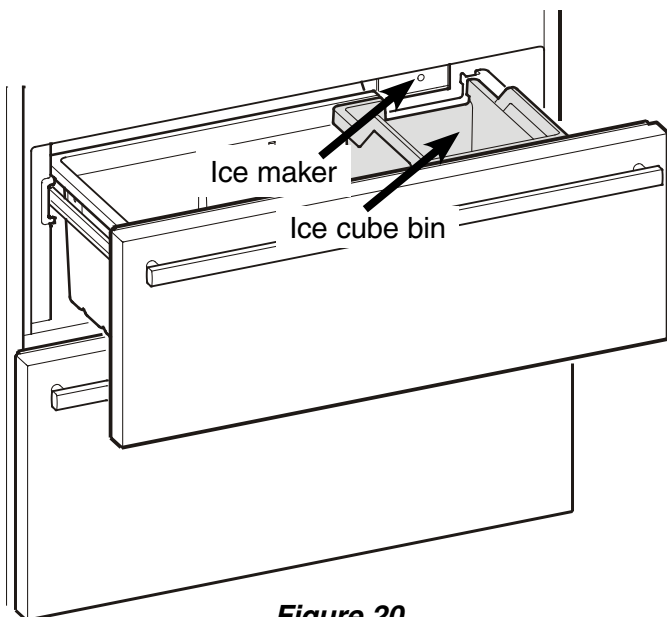

Figure 20
- The ice maker can only make ice cubes if the upper freezer drawer is completely closed and the ice cube bin is installed correctly (**Figure 20**).
The ice cubes fall out of the ice maker into the Ice cube bin (**Figure 20**). When the ice reaches a certain level in the bin, the appliance stops producing ice automatically.
Be sure the upper freezer drawer is completely closed and the ice cube bin is installed correctly. (**Figure 20**).